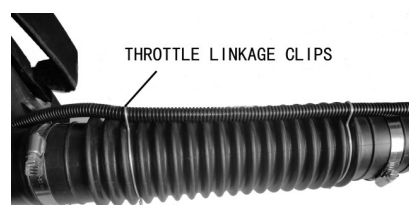
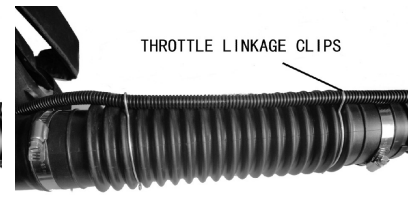

Fig.5
Fig.6
4. Attach the throttle linkage clips to both ends of the flex tube to secure the throttle cable (Fig.5 and Fig.6).